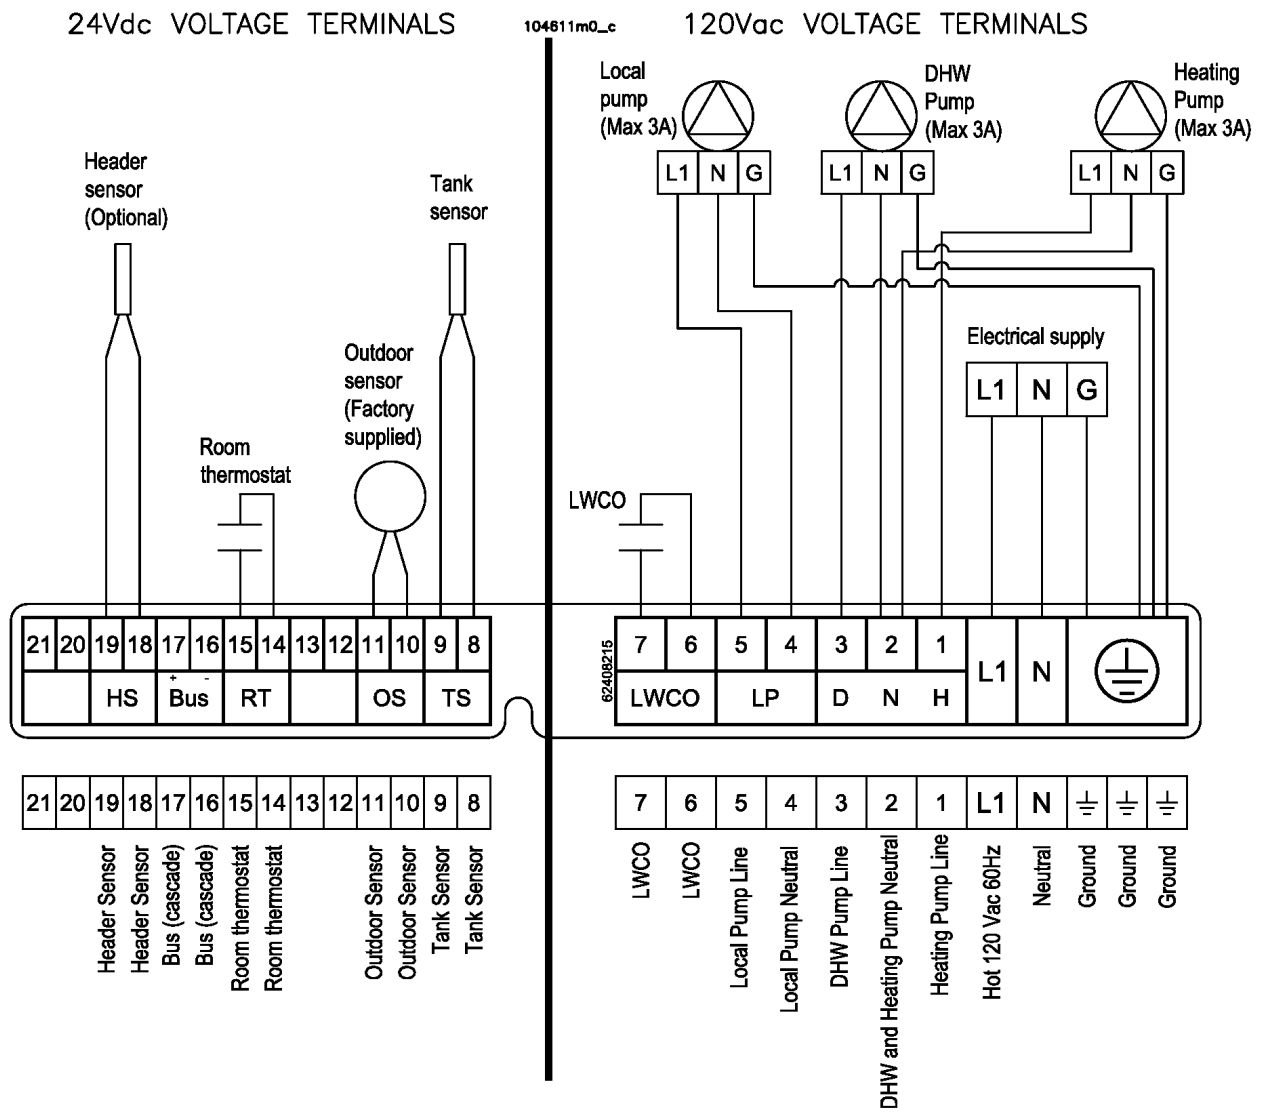

Figure 9-3 Electrical customer connection
3. connect the cable leads to the "14" and "15" terminals as shown in Figure 9-3.
The outdoor temperature sensor is supplied with the boiler. Install the outdoor temperature sensor, on an exterior wall of the building facing NORTH or NORTH-EAST, at a height of between 4 ft (1.2 m) and 6 ft (1.8 m) from the ground level. On multi story buildings, install the sensor near the upper half of the second floor. Do not install the sensor above doors, windows or ventilation outlets nor directly under balconies or gutter pipes. Do not install the outdoor sensor near or above any heat source such as lights or dryer/ exhaust vent terminations. Do not shield the outdoor temperature sensor. Do not install the sensor on walls without overhangs, or not protected from rain. Connect the outdoor temperature sensor to the boiler to terminals "10" and "11" (See figure 9-3):
2. The indirect water heater pump (DHW pump) must be connected to terminals "2" and "3" (See Figure 9-3); a field supplied pump relay must be installed if the pump current draw is grater than 3 amps.
3. The indirect water heater temperature sensor (Tank sensor) must be connected to terminals "8" and "9" (See Figure 9-3). The sensor must be placed into the indirect water heater in a way that can detect the water temperature (Follow the indirect water heater instruction).